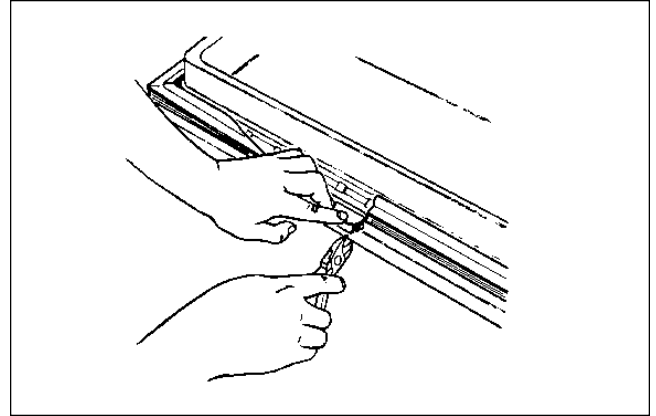

Figure 152
4. While lifting the edge of the gasket, cut the gasket, using a pair of wire cutters. See Figure 152.